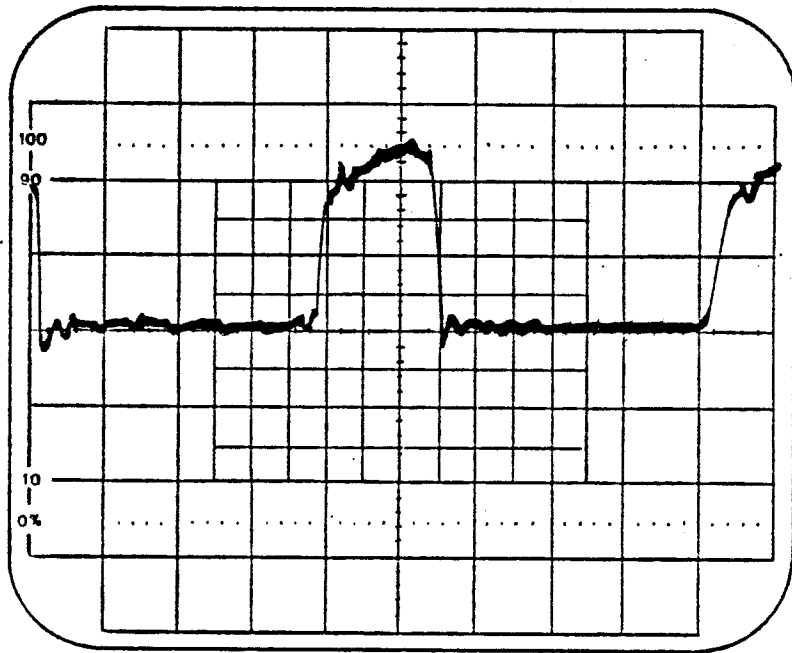

Figure 3-4
- 2) Pin 4 ($\overline{\text{RAS}}$) of all 8 RAMs in any 4K block will have double negative going pulses when that block is selected (Figure 3-4).